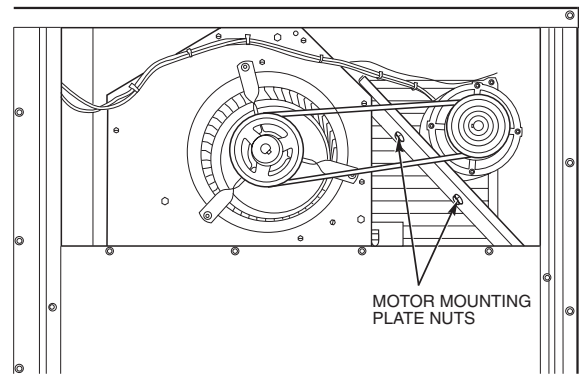

Fig. 42 — Typical Belt-Drive Motor Mounting for Size 008
2. Loosen belt by loosening fan motor mounting plate nuts (see Fig. 42 and 43).
To adjust belt tension (see Fig. 42 and 43):
2. *Size 008* — Slide motor mounting plate away from fan scroll for proper belt tension (13 mm [$1/2$ -in.] deflection with 3.6 to 4.5 kg [8 to 10 lbs] of force) and tighten mounting nuts. See Fig. 42.